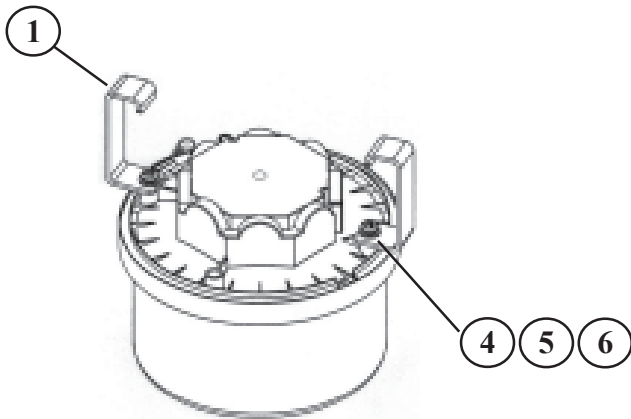

Figure 6a
B. Mount the two brackets (Item #1) to the threaded mounting holes in the junction box lid using a philips panhead screw (Item #4), a flat washer (Item #5), and a split lock washer (Item #6) for each as shown in Figure 6a. The brackets must be positioned as shown in Figure 6a. NOTE: The power and light cords are not shown in order to simplify the figures.